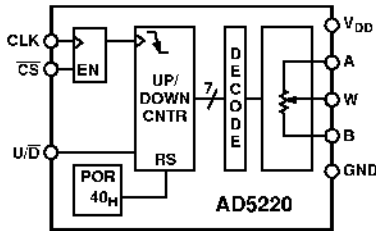

Figure 35. Block Diagram
The AD5220 contains a three-wire serial input interface. The three inputs are clock (CLK), \overline{CS} and UP/DOWN (U/\overline{D}). The negative-edge sensitive CLK input requires clean transitions to avoid clocking multiple pulses into the internal UP/DOWN counter register, see Figure 35. Standard logic families work well. If mechanical switches are used for product evaluation they should be debounced by a flip-flop or other suitable means. When \overline{CS} is taken active low the clock begins to increment or decrement the internal UP/DOWN counter dependent upon the state of the U/\overline{D} control pin. The UP/DOWN counter value (D) starts at 40_{11} at system power ON. Each new CLK pulse will increment the value of the internal counter by one LSB until the full scale value of $3F_{11}$ is reached as long as the U/\overline{D} pin is logic high. If the U/\overline{D} pin is taken to logic low the counter will count down stopping at code 00_{11} (zero-scale). Additional clock pulses on the CLK pin are ignored when the wiper is at either the 00_{11} position or the $3F_{11}$ position.